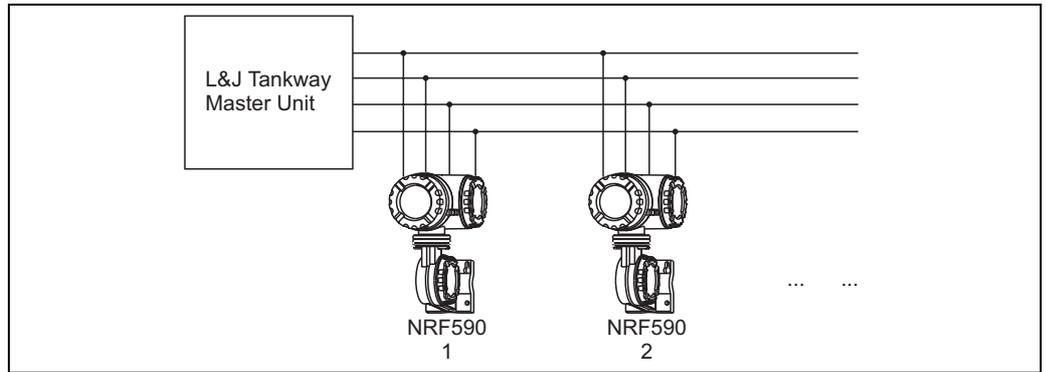

Fig. 2: Standard topology for L&J Tankway Protocol
- Connect the gauges in parallel as shown on figure 2 below.